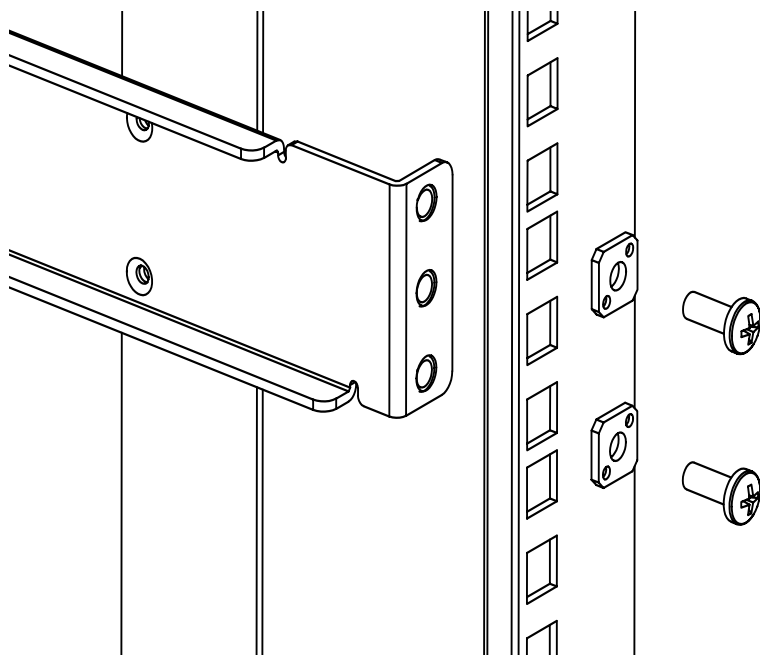

Figure 11 Assembling the outer rails (HP System/e rack)
- For an HP System/e rack, install two #10-32 x 1/2-inch Phillips pan-head screws with captive star lock washers and two #10 alignment washers in the upper and lower hole locations of the right rail. Then install two #10-32 x 1/2-inch Phillips pan-head screws with captive star lock washers and two #10 alignment washers in the upper and lower hole locations of the left rail. See Figure 11.